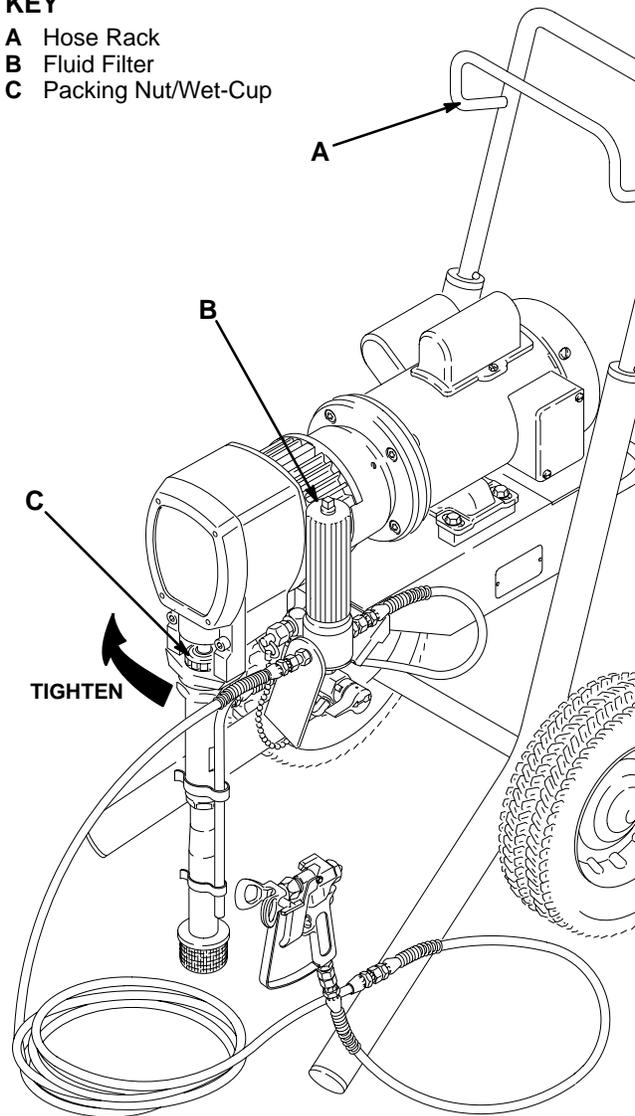

Fig. 7
1. **Check the packing nut/wet-cup (C) daily. Relieve the pressure** Keep packing nut/wet-cup 1/3 full of TSL at all times to help prevent dried fluid from collecting on the piston rod, and to reduce premature wear of the packings. The packing nut/wet-cup should be tight enough to stop leakage, but no tighter. Over-tightening the packing nut/wet-cup may cause binding and excessive packing wear. Use a metal punch and a light hammer to adjust the nut. See Fig. 7.
2. **Clean the fluid filter (B) often** and whenever the sprayer is stored. **Relieve the pressure.** Refer to manual 307-273, supplied, for the cleaning procedure of the filter.